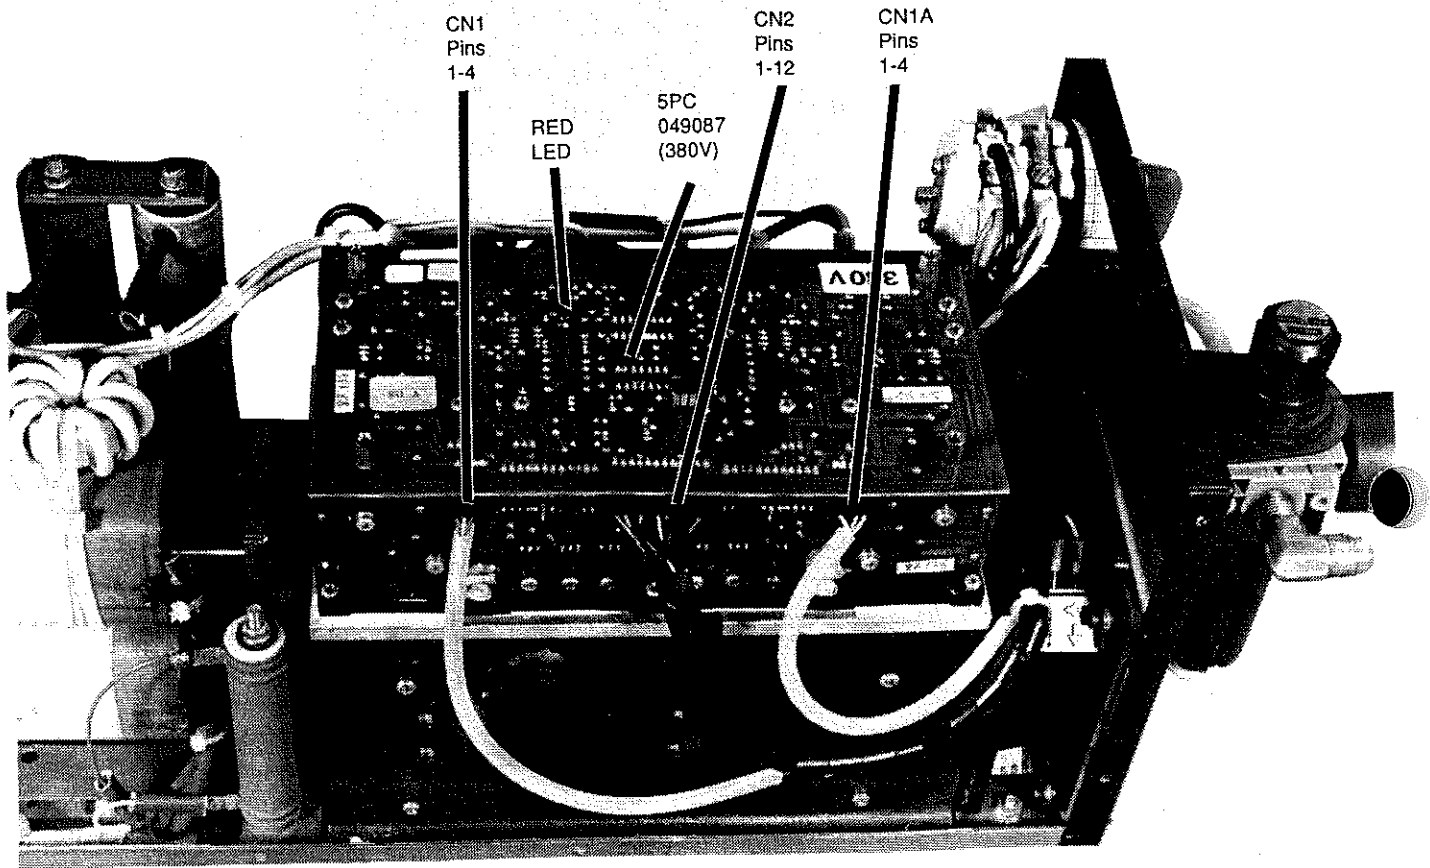

Figure 8
- Figure 8 -- MAX81 5PC Control Wiring